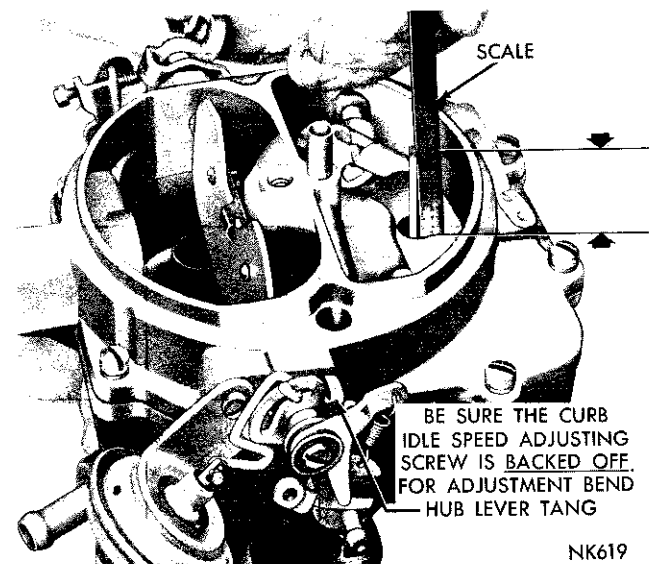

Fig. 9—Checking the Accelerator Pump Setting
(1) Back off the idle speed adjusting screw. Open the choke valve so that the fast idle cam allows the throttle valves to be completely seated in the bores. Be sure that the pump connector rod is installed in the center hole of the throttle lever.
(2) Close the throttle valves tightly. Measure the distance between the top of the air horn and the end of plunger shaft, as shown in (Fig. 9). This measure-